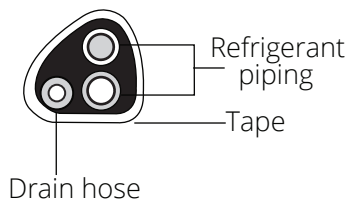

Fig. 4.7
3. Now, you will need to lightly tape the refrigerant piping and drain pipe together in a bundle, using electrical tape, making sure that the drain pipe is at the bottom. **DO NOT** tape the ends of the piping (connectors). Refer to Fig 4.7 and the image below for the correct orientation of the piping when taping.